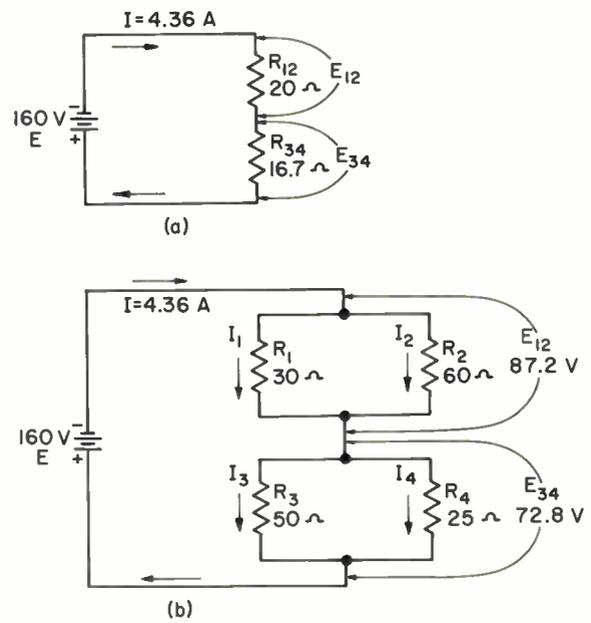

Fig. 5 Steps in the solution of the circuit of Fig. 4.
This value of I is marked on the equivalent circuit shown in Fig. 5(a). The voltages across R_{12} and R_{34} can now be found as follows:
- 8 Since R_{12} is equivalent to R_1 and R_2 in parallel, the voltage across R_1 and R_2 is E_{12} (the voltage across R_{12}). We can now draw the diagram of Fig. 5(b), showing all currents and voltages known so far. Since this new diagram gives the voltages across R_1 , R_2 , R_3 , and R_4 , the current through each of these resistors can now be found.
Check . . . Note that the current from the negative side of the battery divides upon reaching R_1 and R_2 , as shown in Fig. 5(b)—part of the current going through R_1 , and part through R_2 . Hence, the sum of I_1 and I_2 should equal the current coming from the battery. Similarly, the sum of I_3 and I_4 should equal the battery current.